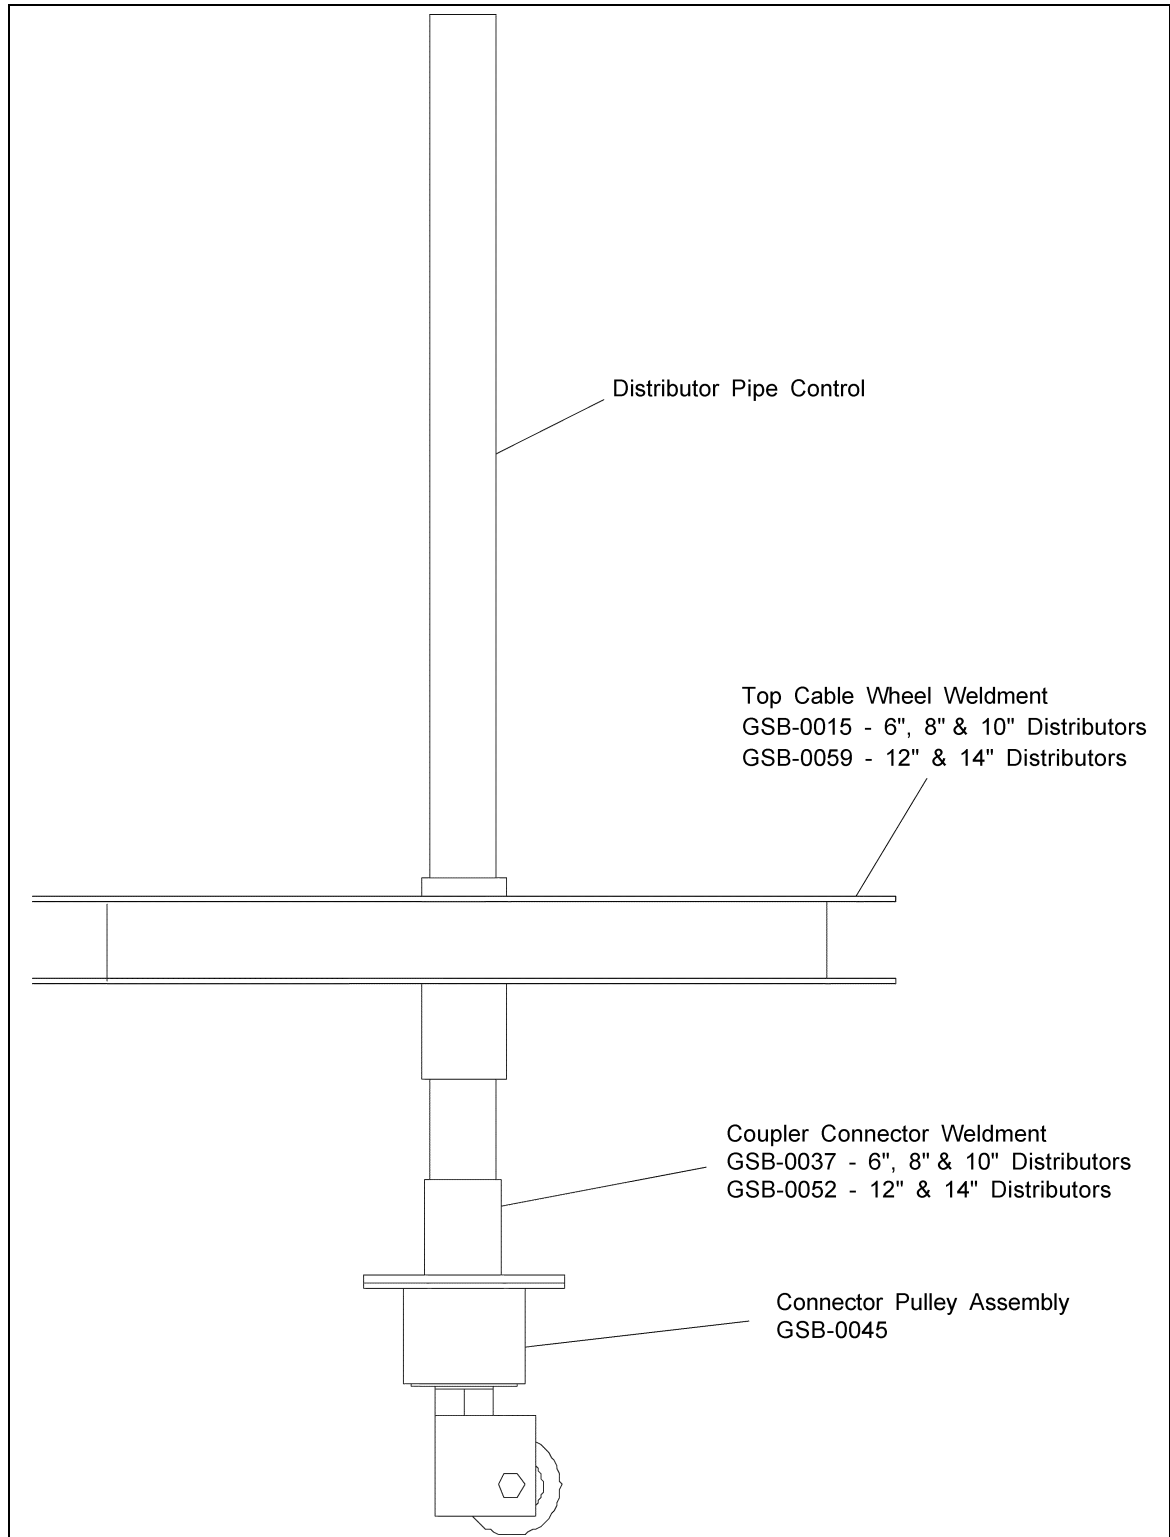
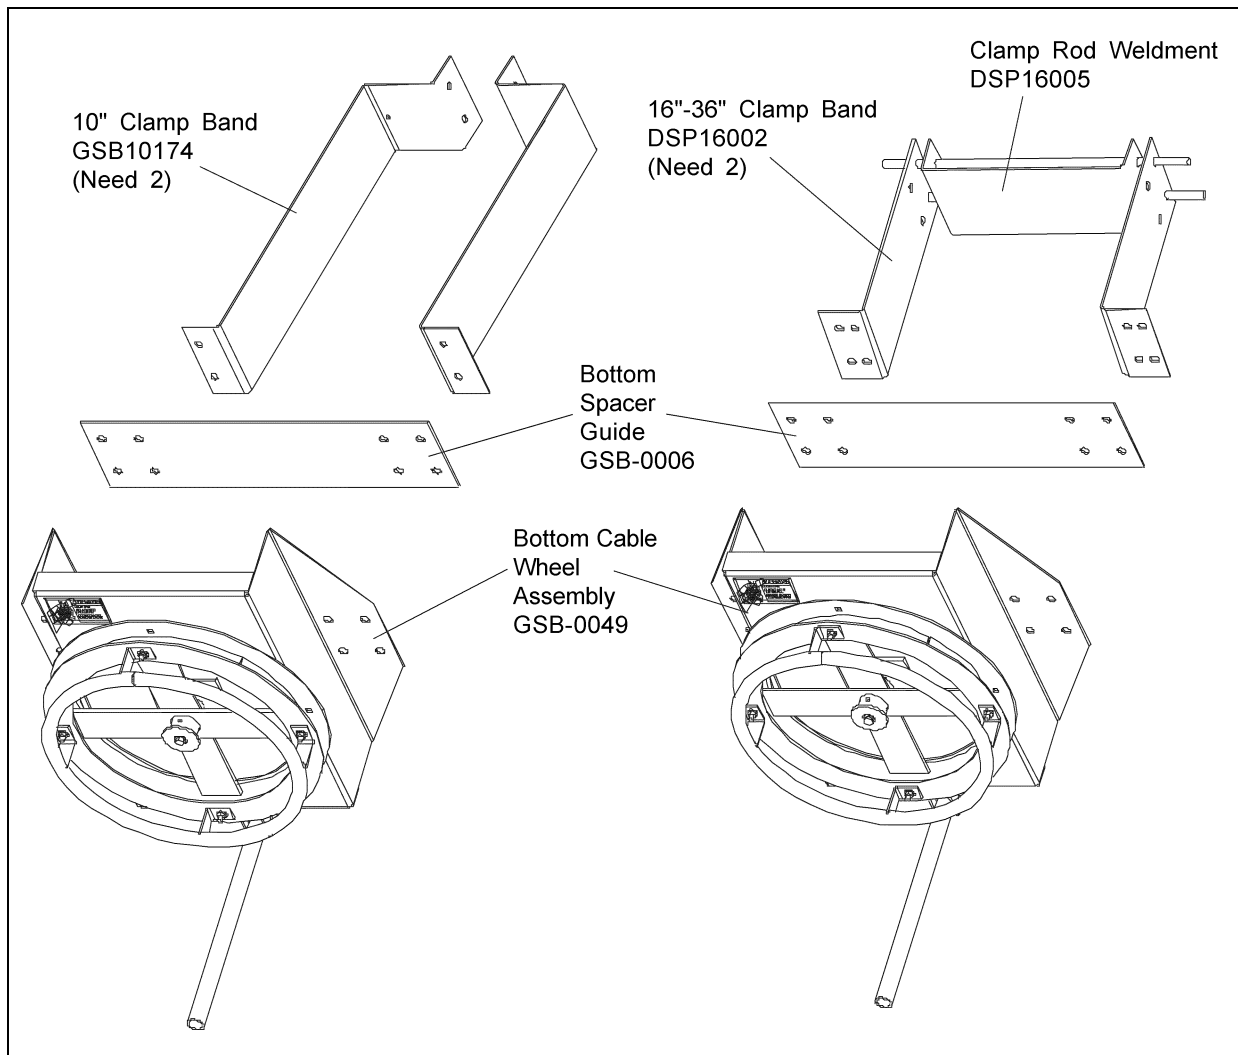
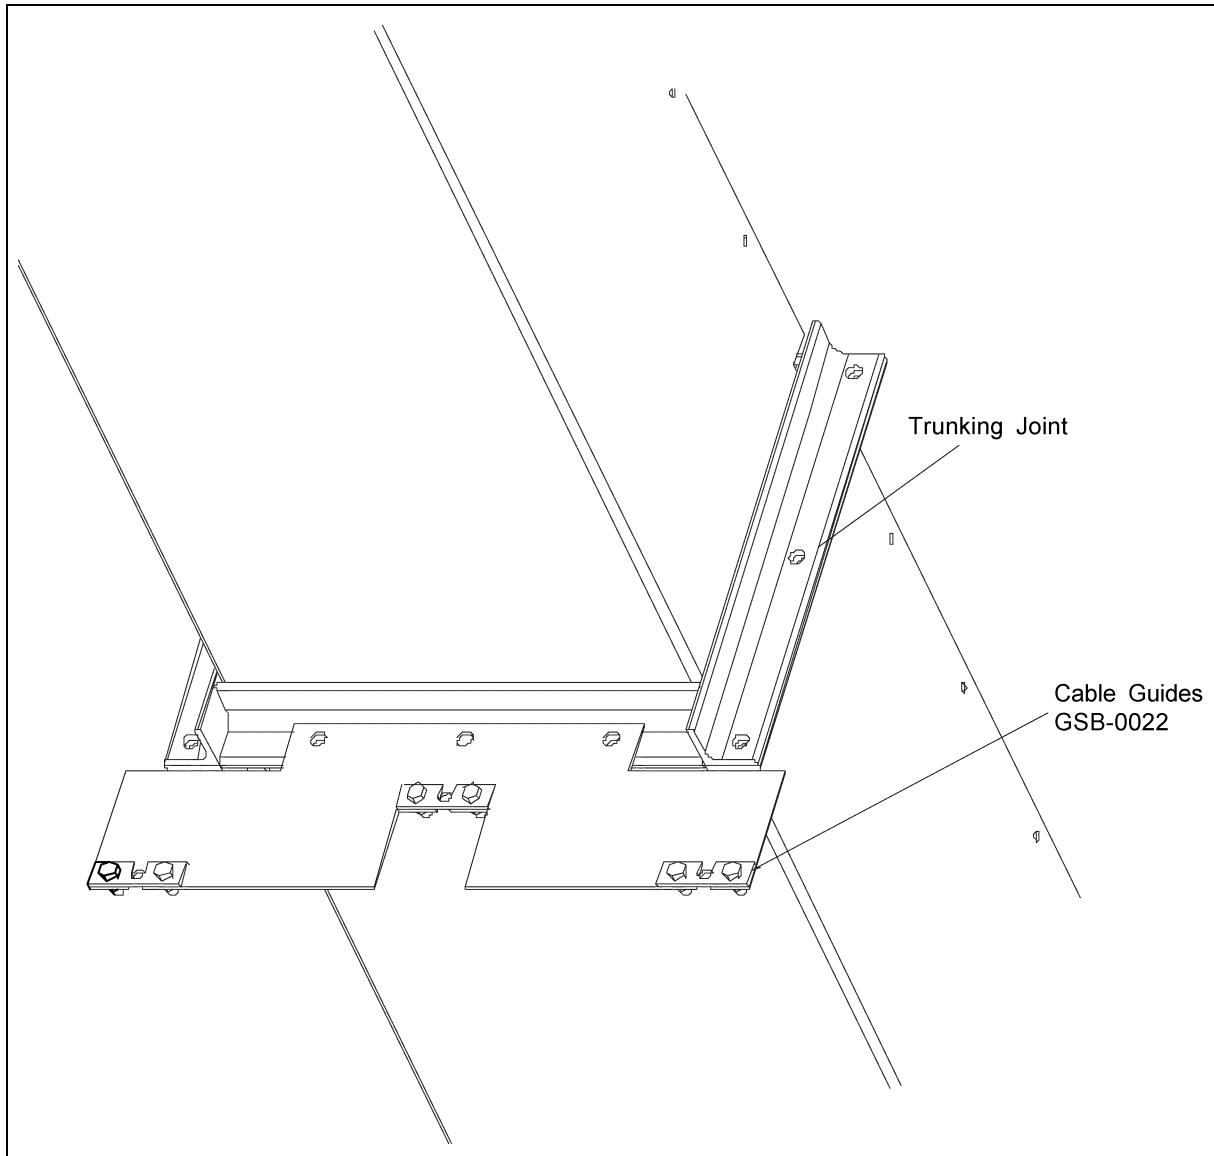

Figure 5C
Figure 5H Trunking Removed for Clarity
Figure 5I
The next piece to install is the connector-pulley assembly (GSB-0045). This piece mounts to the coupler-connector weldment (GSB-0037/GSB-0052) as shown in *Figure 5C* below. These are fastened together using (2) 5/16" x 1" bolts and whizz nuts, supplied in the hardware package (GSB-DCG-HDW).
Once the control handle has been assembled the lower cable wheel can be installed. The location of the lower cable wheel assembly (GSB-0049) is decided by where the operator will be positioned. Once the desired height has been determined for the lower cable wheel, it must be fastened to the trunking. The assembly of the lower cable wheel and clamp bands are shown in Figure 5H below. The 1/2" x 2" bolts and nuts to fasten clamp bands to the lower cable wheel are provided in the hardware package (GSB-DCG-HDW). These clamp bands vary depending on what size leg you have. Refer to tables on Page 14 to see what clamp bands should be used.
To help keep the cable in-line from the upper assembly to lower assembly intermediate cable guides need to be installed. The quantity of the intermediate cable guides is determined by the height of the leg. The company recommends that they be installed every 20 feet. These intermediate cable guides (GSB-0022) are fastened at the trunking joints using the same hardware as the joint. The assembly below shows how the intermediate cable guides are located on the trunk joints (*See Figure 5I*). For cable installation see page 18.
With shorter piece of cable, take it and run through center pulley in upper cable guide assembly (See Figure 5E) & (See Figure 5F). Then run cable over to pulley (GSB-0045) on control pipe of distributor and continuing feeding cable up through control pipe in distributor (See Figure 5D). Make sure cable is fed through all pulleys that are inside distributor. Attach this end to the sliding mechanism inside distributor by looping through eye in slide mechanism. Attach cable back to itself using cable clamp. Once this end is attached, run the cable down the side of the leg to the lower cable wheel assembly (See Figure 5H), running through cable guides when necessary (See Figure 5I). Attach this end to the control handle (GSB-0030) on the lower cable wheel assembly by looping through end hole and attach cable back to itself using cable clamp (See Figure 5H). The control handle will be pulled up to let spout turn inside distributor. Make sure when cable is clamped together that control handle still has enough travel upward to allow the spout to turn.
Take the longer piece of cable and mark the center. Start at the upper cable wheel on the control pipe of the distributor (See Figure 5C). Start at the center of the cable and wrap it around the cable wheel a minimum of three times. Take the ends of the cable and run them over to the upper cable guide assembly (See Figure 5D). Feed the ends through the two outside pulleys. Then run both cables down the leg to the lower cable wheel assembly (See Figure 5H), running through cable guides as necessary (See Figure 5H). Take one end of cable and wrap around cable wheel a minimum of two times. Loop through one of the square holes inside of cable wheel and attach back to itself with cable clamp. Take the other end and wrap a minimum of two times. Loop end through one of the square holes inside on cable wheel, on opposite side as other cable end and attach back to itself with cable clamp.